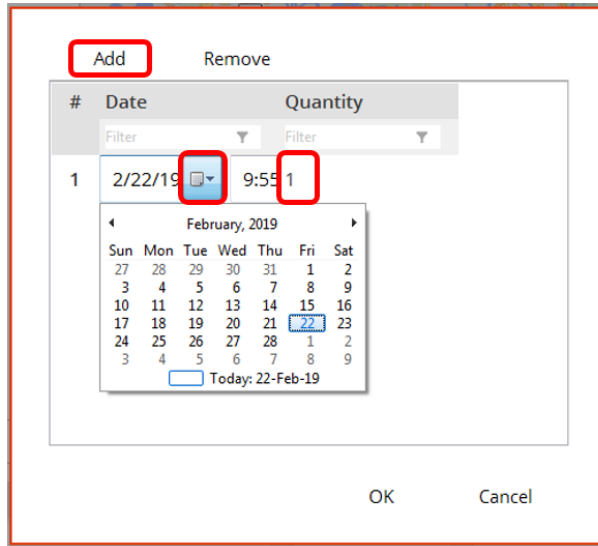

Figure 23: Historic Demand Parameters 2
- This will bring us to Figure 23.